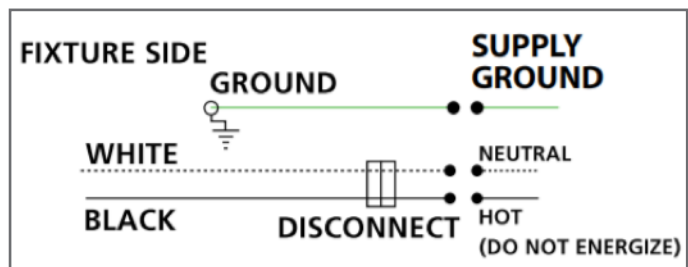

FIGURE 5
5. Route the input wires through the chosen knockout and make electrical connections according to Figure 5.